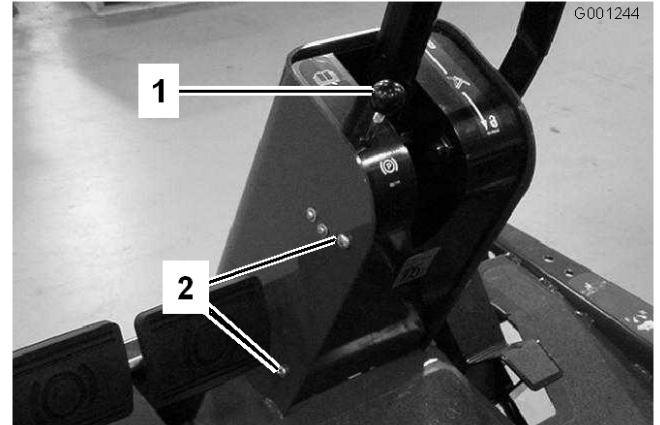

Figure 64
1. Remove the knob from the parking brake and screws from the steering column cover (Figure 64).